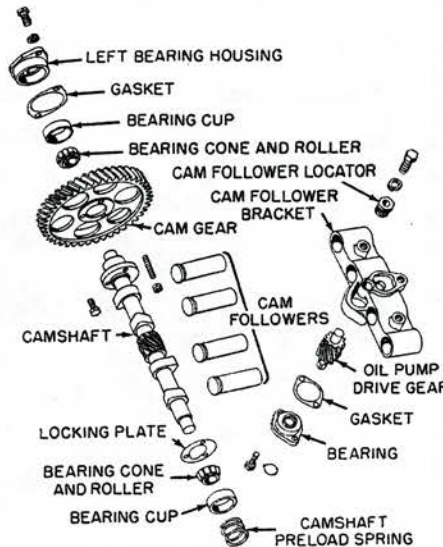

Fig. 5A Exploded view of Model 60 camshaft and related parts. Model 50 is similar
**MODEL 60**—The camshaft is carried in and located by two Timken roller bearings lubricated by oil thrown up inside the crankcase. The bearings are pre-loaded by a spring, Fig. 5A, located at the right end.